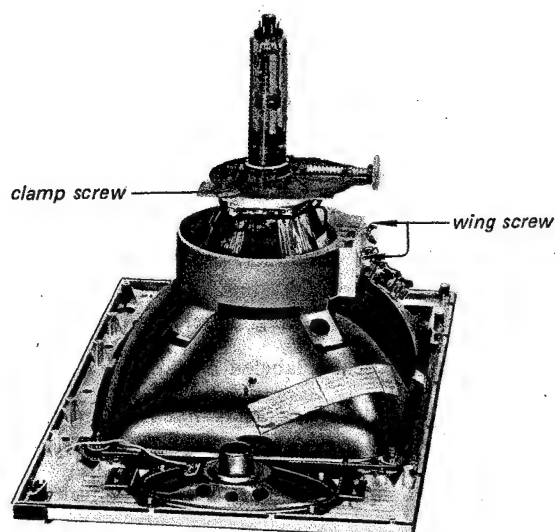

Fig. 2-29.
19. Remove the two wing screws and loosen the clamp band of the deflection yoke as shown in Fig. 2-29.
4. Install the deflection yoke to the neck of picture tube, and tighten the two wing screws and the clamp band of the deflection yoke as shown in Fig. 2-29.